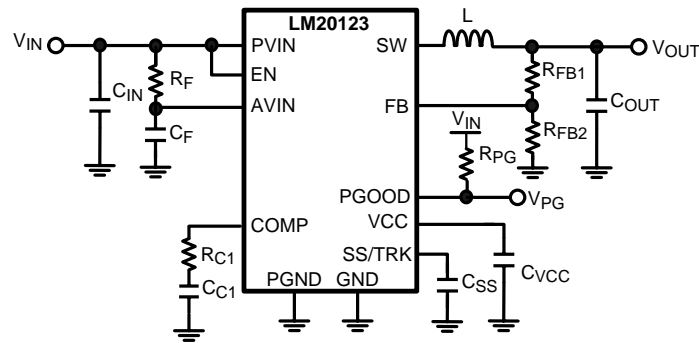

Figure 25. Typical Application Circuit
The LM20123 switching regulator features all of the functions necessary to implement an efficient low voltage buck regulator using a minimum number of external components. This easy to use regulator features two integrated switches and is capable of supplying up to 3A of continuous output current. The regulator utilizes peak current mode control with nonlinear slope compensation to optimize stability and transient response over the entire output voltage range. Peak current mode control also provides inherent line feed-forward, cycle-by-cycle current limiting and easy loop compensation. The fixed 1.5 MHz operating frequency minimizes the inductor size while still achieving efficiencies up to 96%. The precision internal voltage reference allows the output to be set as low as 0.8V. Fault protection features include: current limiting, thermal shutdown, over voltage protection, and shutdown capability. The device is available in the HTSSOP 16-Pin package featuring an exposed pad to aid thermal dissipation. The LM20123 can be used in numerous applications to efficiently step-down from a 5V or 3.3V bus. The typical application circuit for the LM20123 is shown in Figure 25 in the design guide.
This section walks the designer through the steps necessary to select the external components to build a fully functional power supply. As with any DC-DC converter numerous trade-offs are possible to optimize the design for efficiency, size, or performance. These will be taken into account and highlighted throughout this discussion. To facilitate component selection discussions the circuit shown in Figure 25 below may be used as a reference. Unless otherwise indicated all formulas assume units of amps (A) for current, farads (F) for capacitance, henries (H) for inductance and volts (V) for voltages.
To prevent high frequency noise spikes from disturbing the sensitive analog circuitry connected to the AVIN and AGND pins, a high frequency RC filter is required between PVIN and AVIN. These components are shown in Figure 25, as  $C_F$  and  $R_F$ . The required value for  $R_F$  is 1Ω.  $C_F$  must be used. Recommended value of  $C_F$  is 1.0 μF. The filter capacitor,  $C_F$  should be placed as close to the IC as possible with a direct connection from AVIN to AGND. A good quality X5R or X7R ceramic capacitor should be used for  $C_F$ .